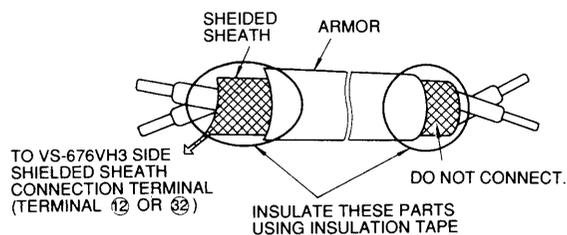

Fig. 3.2 Termination of Twisted Shielded Lead
(1) Wiring the Control Circuit
- Separate the control circuit leads (terminals ① to ⑩) from the main circuit leads (terminals ⑪, ⑫, ⑬, ⑭, ⑮, ⑯, ⑰, ⑱, ⑲, ⑳) and other power cables.
- Separate the control circuit leads ⑨, ⑩, ⑱, ⑲, ⑳ (contact output) from leads ① to ⑧, ⑪ to ⑱, and ⑳ to ⑳.
- Use twisted shielded leads and twisted pair shielded leads to wire the control circuit to prevent operation error caused by noise interference. Terminate the ends as shown in Fig. 3.2.